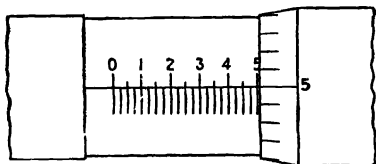
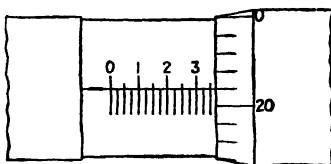
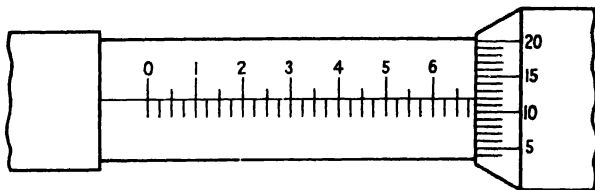

Fig. 3-31.
Fig. 3-32.
Fig. 3-33.
3. What is the reading in Fig. 3-31? Fig. 3-32? Fig. 3-33?